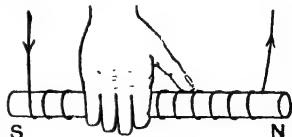

FIG. 107. THE POLARITY OF AN ELECTROMAGNET.
N. pole (Fig. 107). Often the iron core is bent round into a horse-shoe, and the wire must then be wound in opposite directions on